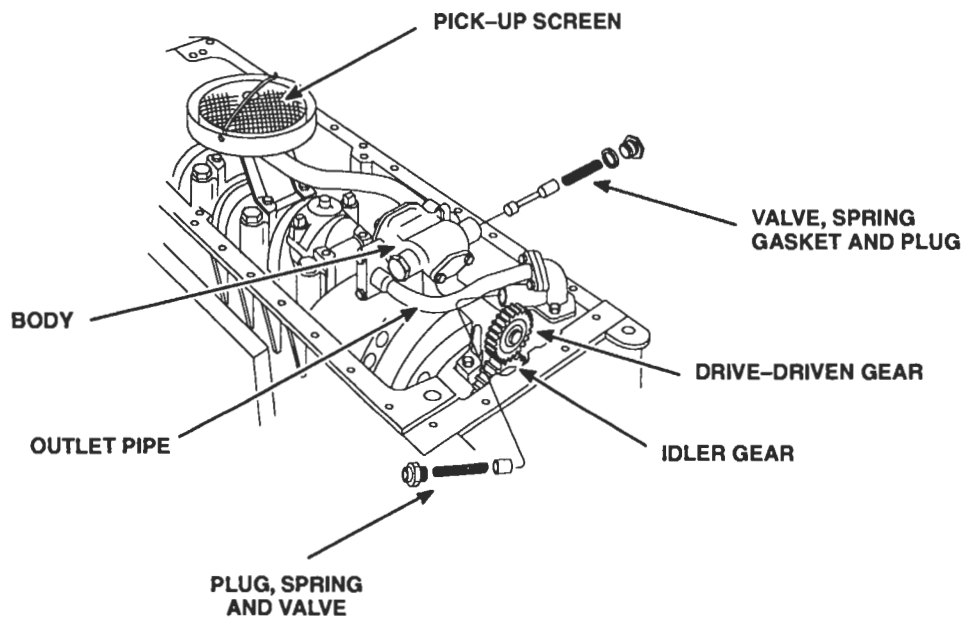

Figure 2. Oil Pump Mounting
3. Remove the bolts and lock washers securing the oil pump, regulator body and oil outlet tube and oil inlet tube support (including scavenging pump tube supports if used) from the main bearing caps, and cylinder block (Figure 2.)